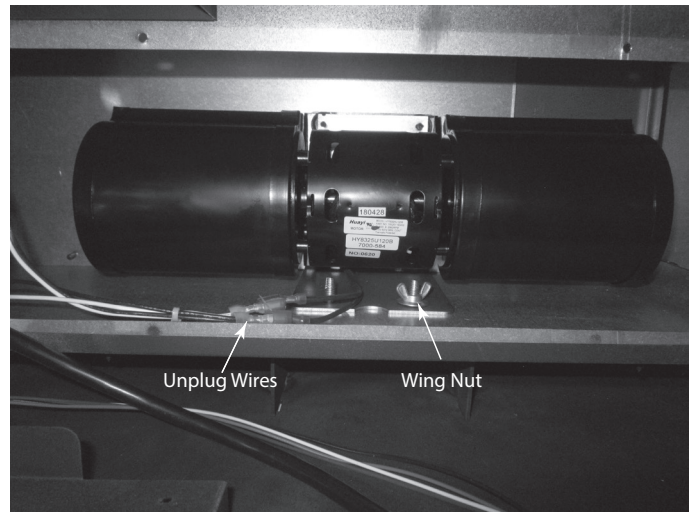

Figure 4.17 Disconnect Wires from Fans
- Disconnect the wires from the fans. See Figure 4.17.